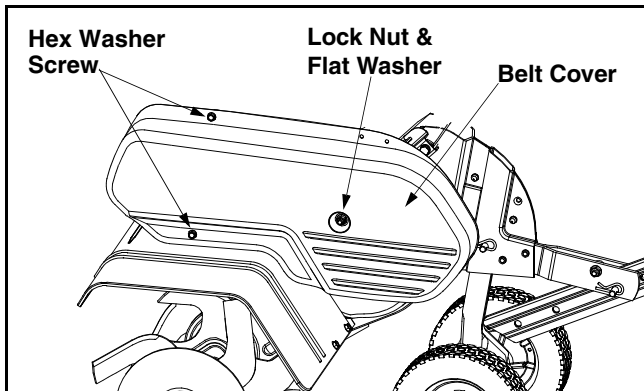

Figure 14
- Remove two self-tapping screws and flat washers from the front of belt cover. See Figure 14.